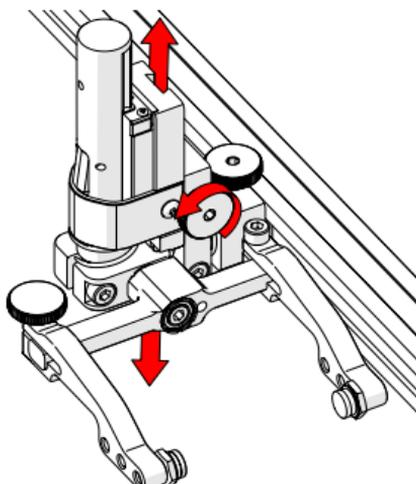

Fig. 65 - Vertical adjustment
2. The vertical adjustment knob allows the vertical probe holder height adjustment (Fig. 65).